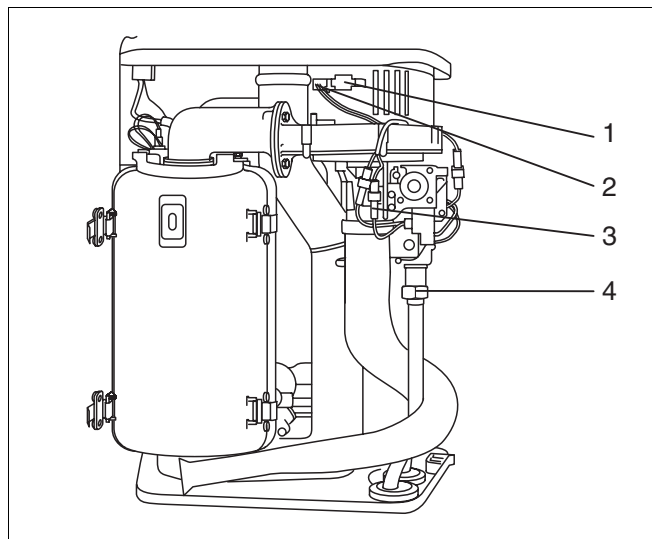

Fig. 77 Replacing the gas burner fitting on the 600 Series:
- Disconnect the fan using the plug and socket (fig. 77, item 1), loosen the UBA control line at the fan (fig. 77, item 2) and the gas burner fitting (fig. 77, item 3).
- Loosen the union nut (fig. 77, item 4) on the gas burner fitting.